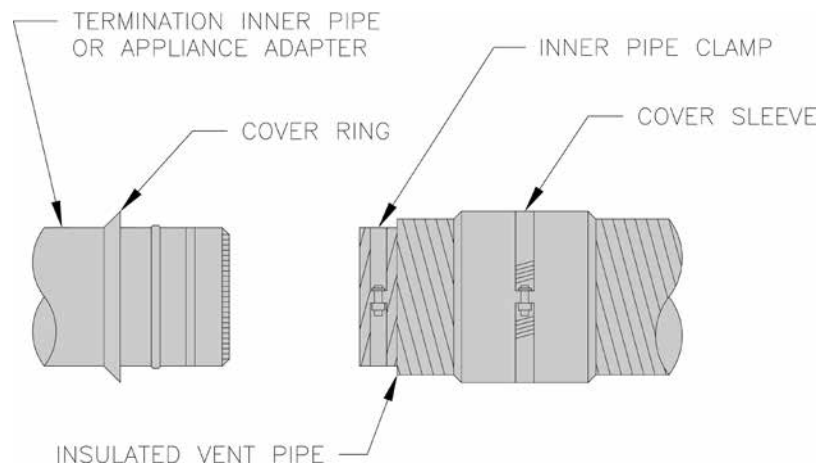

Figure 22: Vent Pipe Assembly to Vent Termination Inner Pipe and Appliance Adapter
3. Pull outer vent pipe back 1" to 2" from end of inner vent pipe and remove insulation; firstly, at vent pipe side to be connected to the vent termination; secondly, at vent pipe side to be connected to the appliance adapter. See Figure 22.
4. Install supplied Cover Sleeve Assembly onto each end of outer vent pipe, and, move the assembly a few inches back from the end; firstly, at vent pipe side to be connected to the vent termination; secondly, at vent pipe side to be connected to the appliance (boiler outlet collar) adapter. See Figure 22.
5. Slide supplied Cover Rings; firstly, over stop bead on vent termination inner pipe; secondly, over stop bead on appliance adapter. See Figure 22.